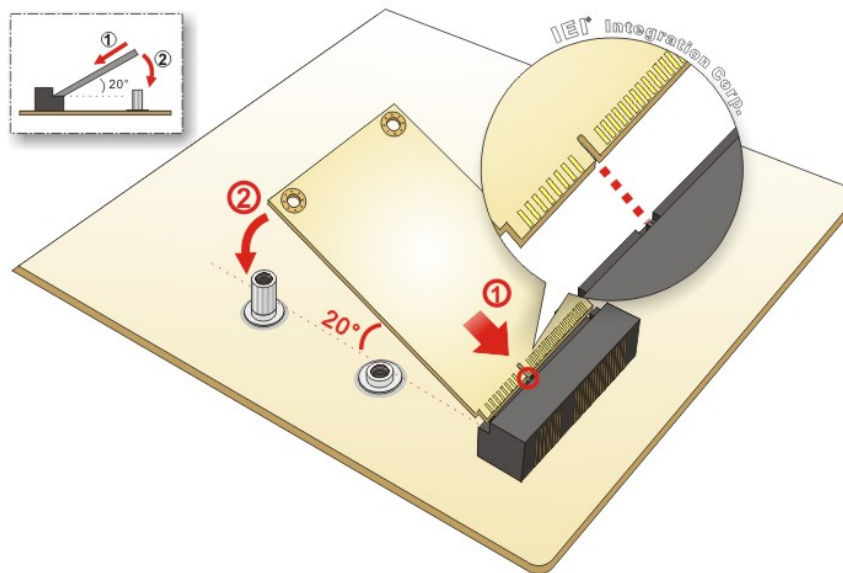

Figure 4-9: Inserting the Full-size PCIe Mini Card into the Slot at an Angle
Step 4: Insert into the socket at an angle. Line up the notch on the card with the notch on the slot. Slide the PCIe Mini card into the socket at an angle of about 20° (Figure 4-9).